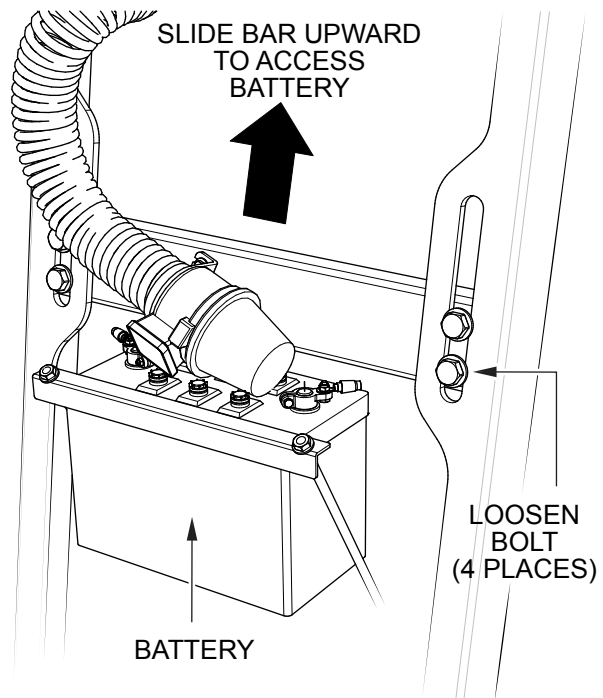

Figure 34. Raising the Battery
2. Loosen the two bolts on each side of the bar connecting the battery to the side rails (Figure 34).